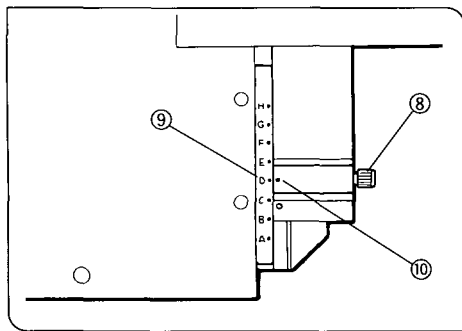

Fig. 62
3. Loosen the Y-axis index clamping knob ⑧ and move the scale to align the scale index ● ⑨ with the index ● ⑩. Then tighten the Y-axis index clamping knob. (Fig. 62)